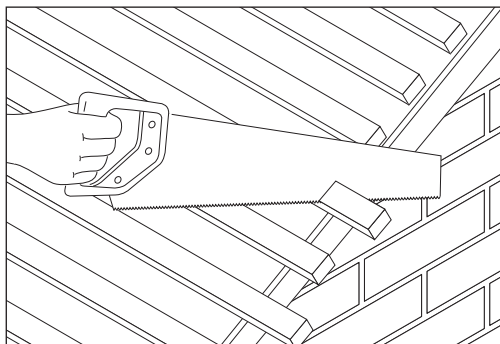

Fig 1 Saw battens flush
- 2 Where possible, set out the tiling so that the leg of the cloak verge fits flush with the brickwork or bargeboard. If so, cut the ends of the battens flush with the outer edge of the gable wall or bargeboard (Fig. 1).